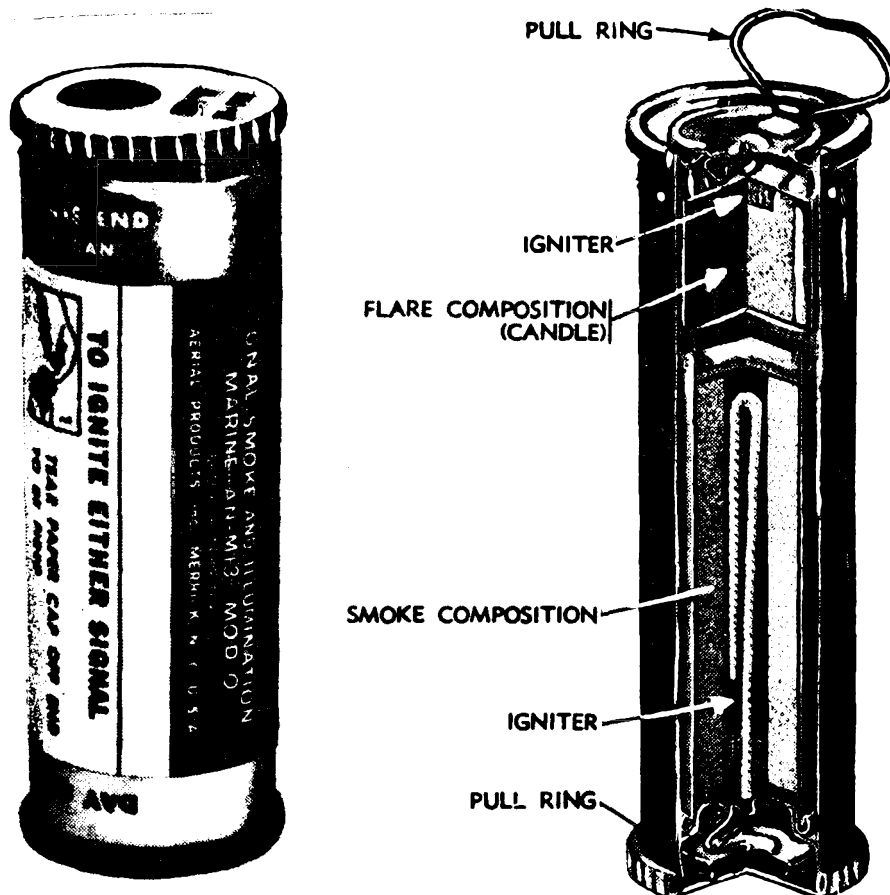

Figure 9-24. Marine Smoke and Illumination Signal, AN-MK13 Mod 0
- (1) Small arms ammunition (cal. .22 hornet or .38 special)
- (2) MK 13 Day and Night signals (see figure 9-24)